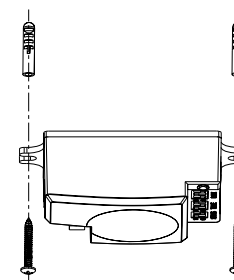

Fig.1.
2. Screw the bottom of the device in chosen position by screws with raw plugs through the holes in the sensor (Fig.1).